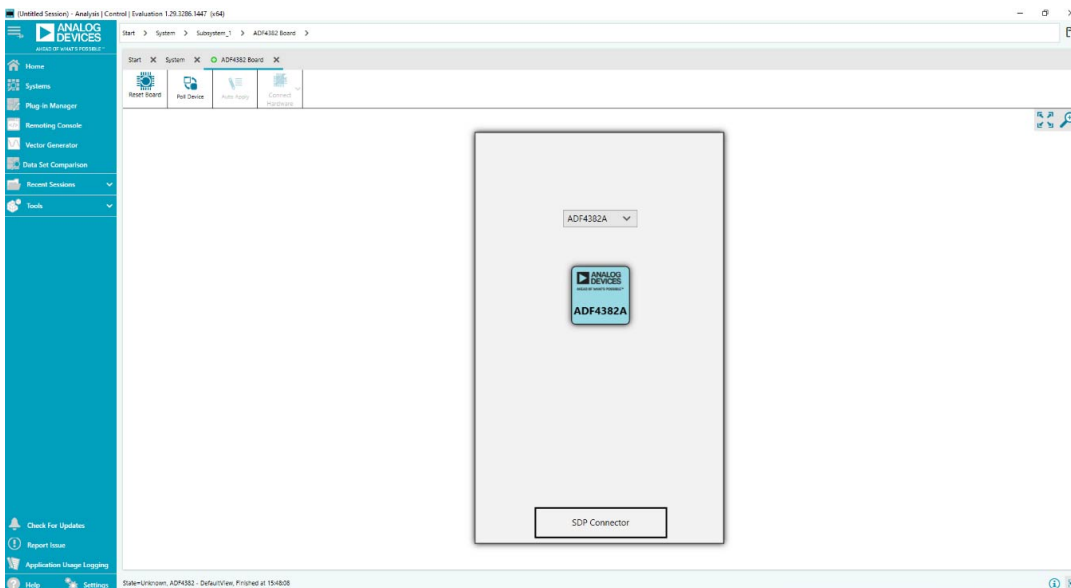

Figure 4. ACE ADF4382A Board Page, Device Selection
2. Double-click the **ADF4382 Board** icon, and the tab shown in **Figure 4** appears.